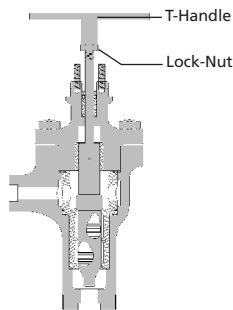

Figure 4
9. Screw a drilled and tapped rod with a T-handle onto the plug stem and secure with a locknut (see Figure 4).